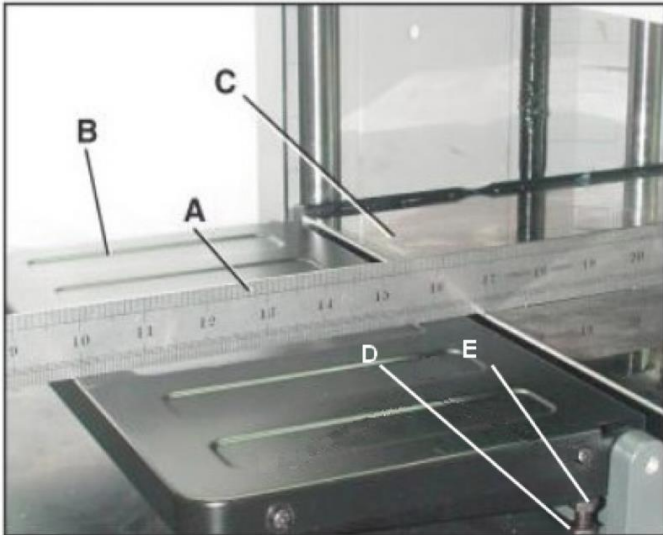

FIG 3
1. Lay a straight edge (A) on the planer table (C) with one end of the straight edge over the infeed table (B). FIG. 3.
3. If an adjustment is necessary, raise the table, loosen locknuts (D) and adjust Hex Head Screws (E) on each side of the table until the infeed table is level with the thicknesser table.